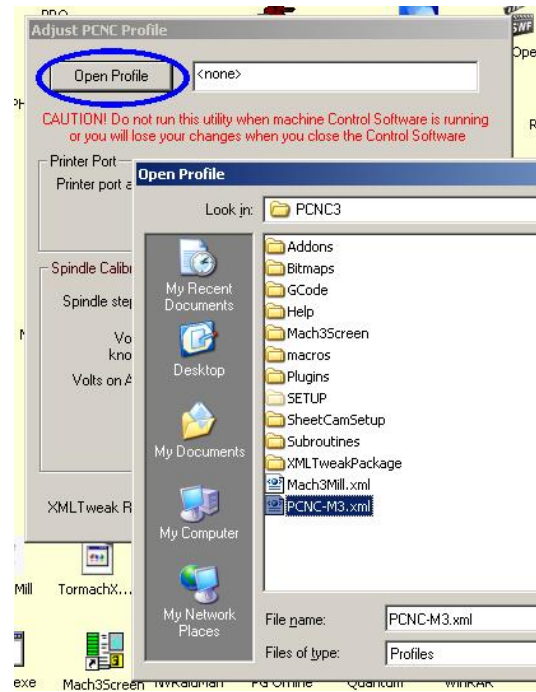

Figure 9.11 – Opening the profile
6. Open the XML Tweak software program located under “Programs” on your “Start” menu. Click the “Open Profile” button and choose the machine profile you wish to modify (figure 9.11). The profile for the PCNC3 is C:\PCNC3\PCNC-M3.xml.